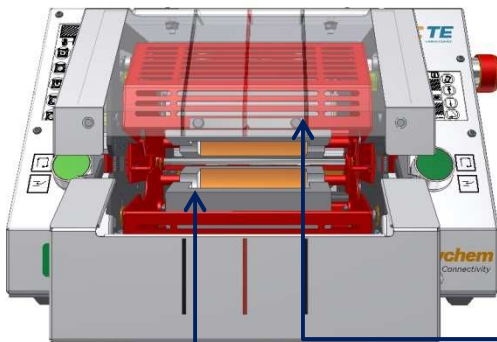

Fig. 4-23:
3. Place test probe firmly on each of the four test points in turn, as listed below (see Figures 4.23., 4.24., 4.25.). Press TEST for 10 seconds, check resistance remains at not greater than 0.225 ohms for the 10 seconds.